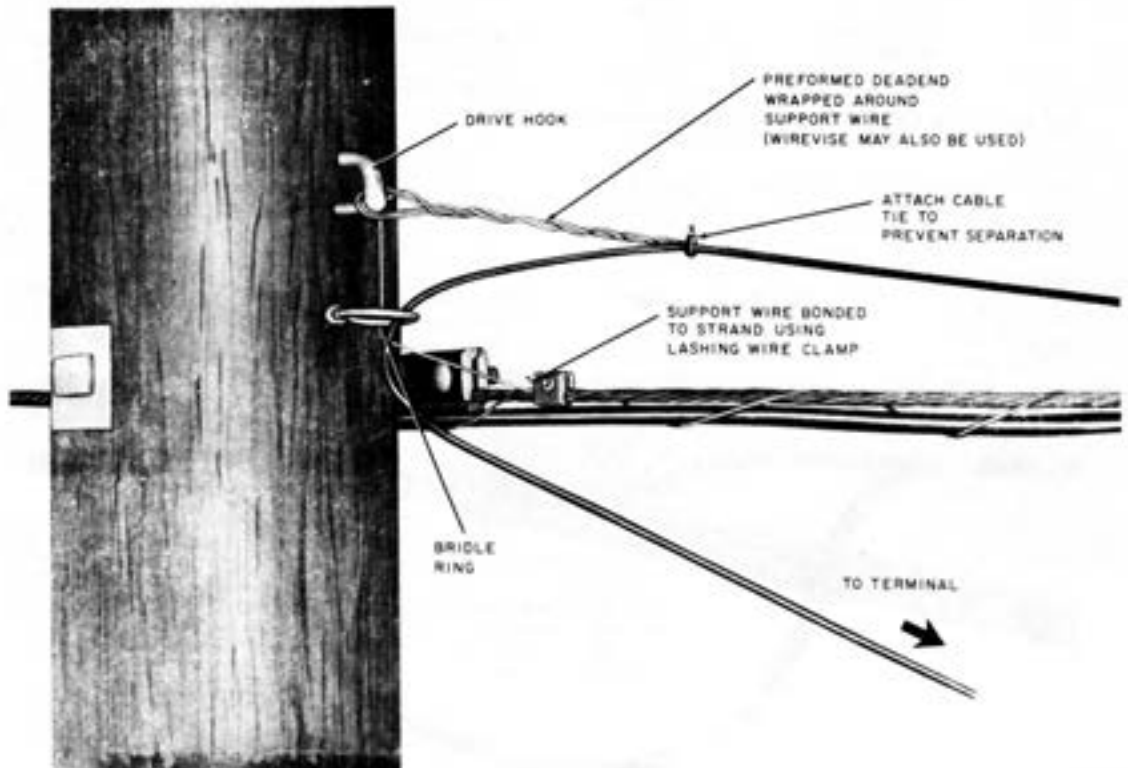

Fig. 10—Completed Pole Attachment
- (3) Cut the wire to the required length making an allowance for a 6-inch drip loop.
- (4) Cut the web and separate the support wire from the jacketed pairs to approximately 8 inches from the pole attachment.
- (5) Place a plastic cable tie around the jacketed pairs and support wire at the point of separation to prevent further splitting of the web.
- (6) Cut the support wire at the required length allowing sufficient length for bonding to the cable strand.
- (7) Crush and strip the PVC jacket around the support wire back to the cable tie(s).
- (8) Install a DE-2506 dead end or a No. 5056B wirevise on the bare support wire and attach to pole attachment. Release and remove drop wire puller.
- (9) Complete the pole attachment as shown in Fig. 10.